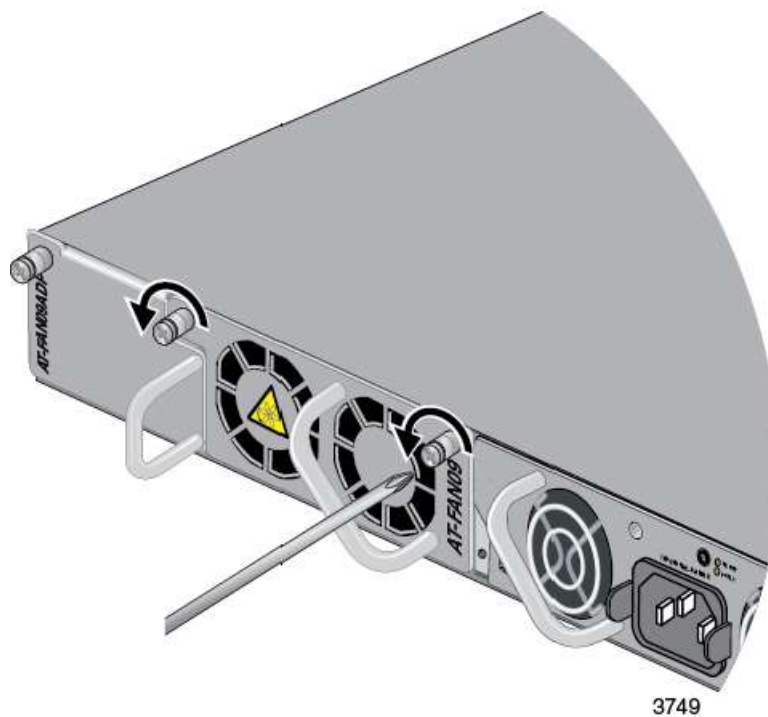

Figure 28. Loosening the Two Captive Screws on the AT-FAN09 Module
3. Loosen the two captive screws on the AT-FAN09 Fan Module with a cross-head screwdriver. Refer to Figure 28 on page 78.